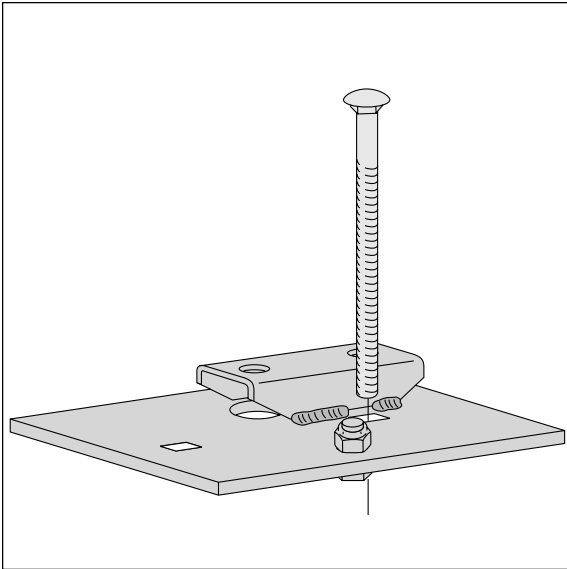

Figure 8
5. After determining and installing the appropriate stackup, insert one carriage bolt (N) into the forward hole of the lower bracket (Figure 8).